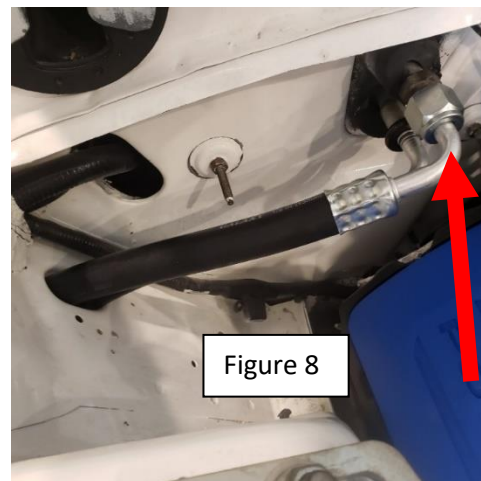

Figure 8
11. Connect last hose by attaching large B-nut fitting (Figure 8) to threaded attachment on fire wall and route back through the fender and connect to the vertical fitting tube (Figure 9). Again, make sure the spring clicks to assure the fitting is fully seated.